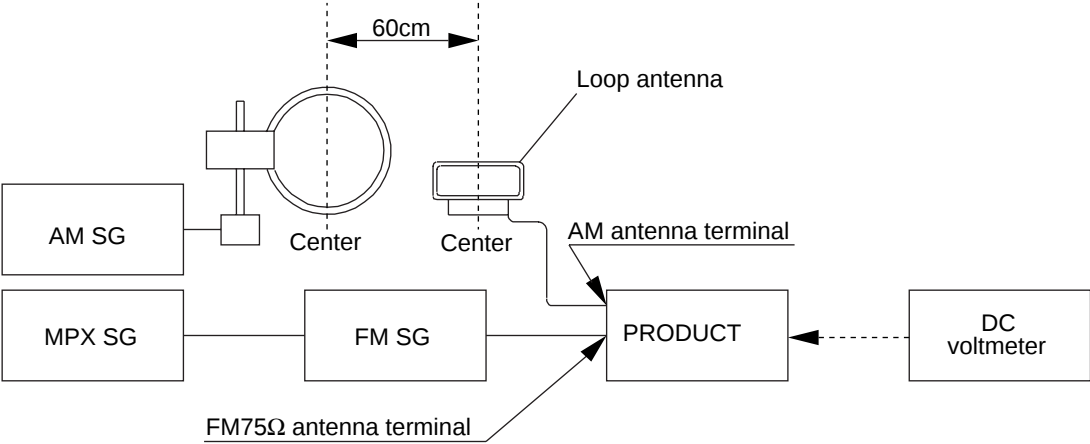

Fig.6-1 AM and FM Adjustment Wiring Diagram
- Connect the wiring as shown in Fig. 6-1.